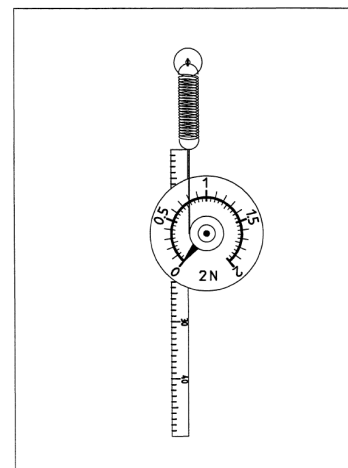

Figure 1
- Bring the pointer of the force gauge to zero and lock the scale (Fig. 1).